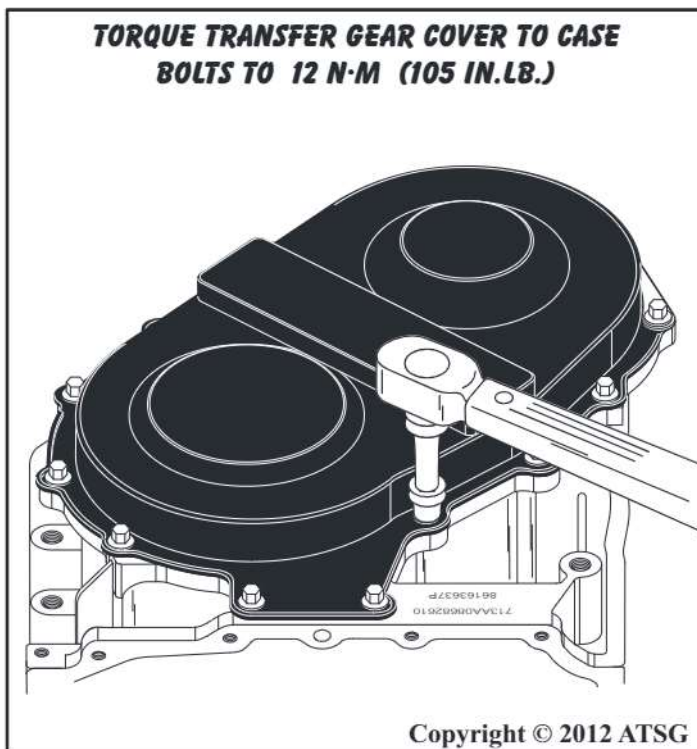

Figure 242
24. Torque the thirteen transfer gear cover bolts to 12 N·m (105 in.lb.) as shown in Figure 242.